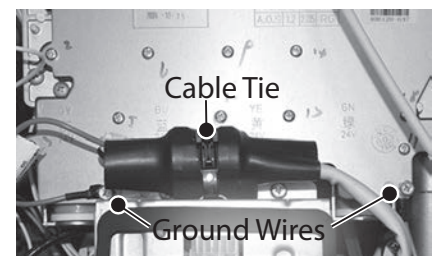

Figure 48 - Ground wires and cable tie removal.
- 9 Remove the cable tie securing the wiring harness to the UIM bracket. See Figure 48.
- 10 Remove the screws securing the two ground wires. Place the screws aside in a safe place for reinstallation. See Figure 48.